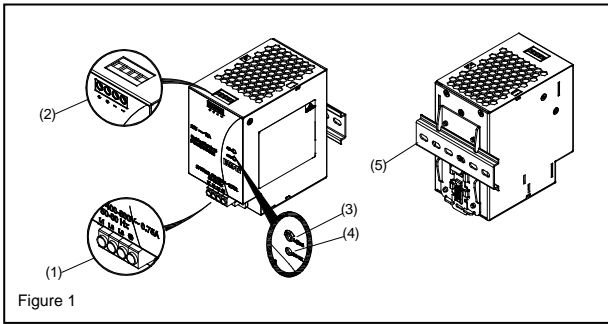
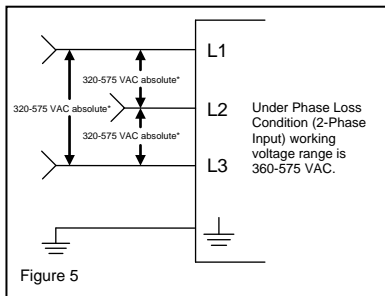

Figure 1
Figure 5
### 2. Device description (Fig. 1)
### 5.1. Input connection (Fig. 1, Fig. 5)
Use L1, L2, L3 and PE connections of input terminal connector to establish the 3 x 400-500 VAC connection. Fig. 5 shows the connection to the various network types.
### 5.2. Output connection (Fig. 1 (2))
Use the "+" and "-" screw connections to establish the 24Vdc connection. The output provides 24 VDC. The output voltage can be adjusted from 24 to 28 VDC on the potentiometer. The green LED DC OK displays correct function of the output (Fig. 1 (4)). The device has a short circuit and overload protection and an overvoltage protection limited to 35 VDC.